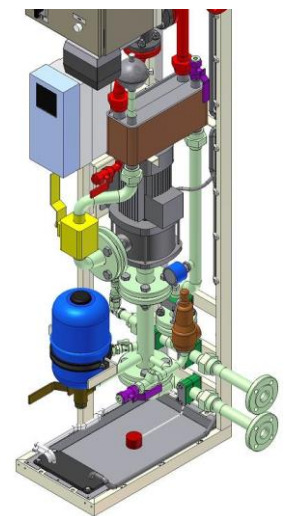

Figure 5.1-10
- Valves V161...V162      open (violet colour in Figure 5.1-10)
- Valve V160              lever towards you (brown colour in Figure 5.1-10)
- Valve V140              closed (yellow colour in Figure 5.1-10)